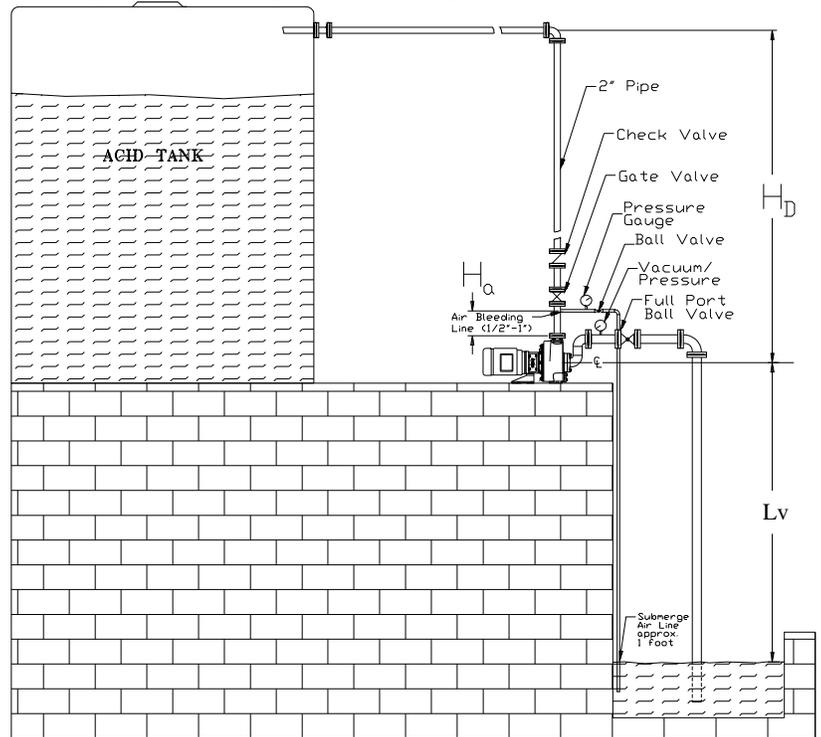

Figure 6-1 Sump piping
Figure 6-1 represents a recommended piping setup for sump applications where the liquid source is located below the pump. The KP is capable of priming trouble-free and repeatedly when properly installed. Due to the wide variety of suction piping conditions in the field, some arrangements may differ and additional precautions should be emphasized. Suction lift, horizontal line length, pipe size and the existence of filter chambers are most influential to the suction performance. These conditions will alter the static suction head and volume of air, which the self-priming pump has to purge out. Variations in specific gravity (SG) and vapor pressures of the liquid also change the suction performance.
- 2) If static discharge pressure (pressure indicated when pump is off) is greater than 10 psig, then an alternate valved air bleeding line (1/2" to 1") is required allowing pump to exhaust freely back to the source tank (Figure 6-1). Air bleeding line location on discharge ( $H_a$ ) is approximately 1 ft above the pump while end of line is submerged approximately 1 ft in source liquid. Ball valve on bleed line should remain open when priming and closed when pumping, unless discharge loss is satisfactory. Line aids in re-circulating under low flow conditions.
- 3) **Startup when discharge pressure is greater than 10 psi.** Centrifugal self-priming pumps have a difficulty priming against any discharge pressure. An alternate air bleeding line should be used on pump startup (shown in Figure 6-1 & 6-2). Open suction and close discharge valve for use of air bleeding line, then turn on the pump. Priming will begin immediately. When a steady discharge pressure is read, open discharge valve.